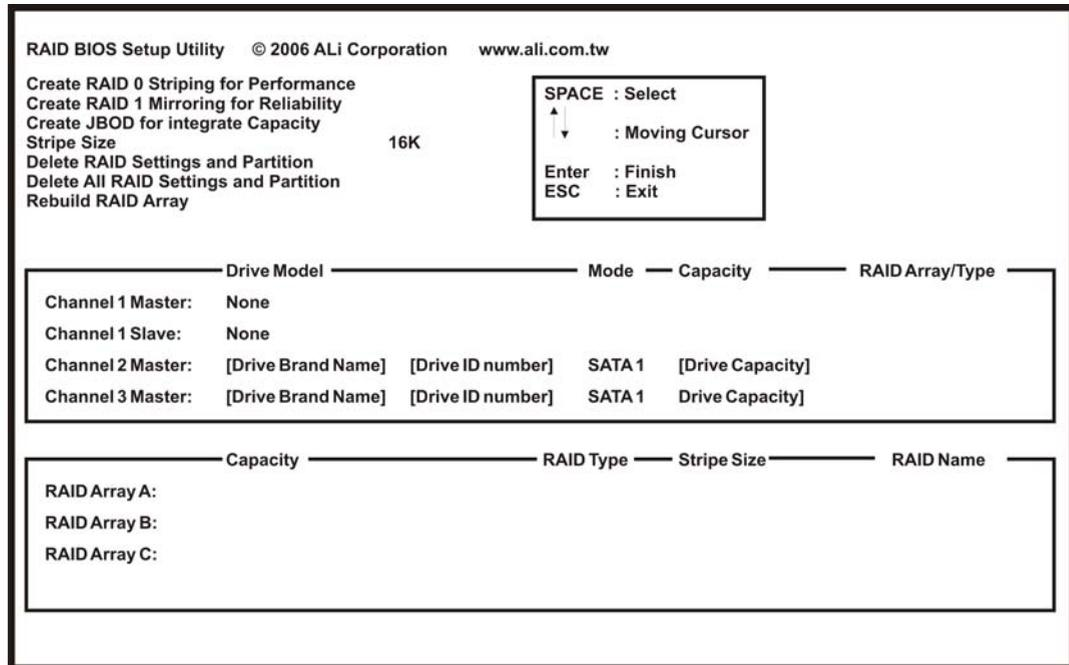

Figure F-2: RAID BIOS Setup Utility
- Step 6: Delete RAID settings and partitions.** The **RAID BIOS Setup Utility** in **Figure F-2** appears. Before configuring the array select the **“Delete All RAID Setting & Partition”**.
- Step 7:** Configure the RAID settings. Use the RAID BIOS Setup Utility in Figure F-2 to configure the RAID array. Brief descriptions are given below.